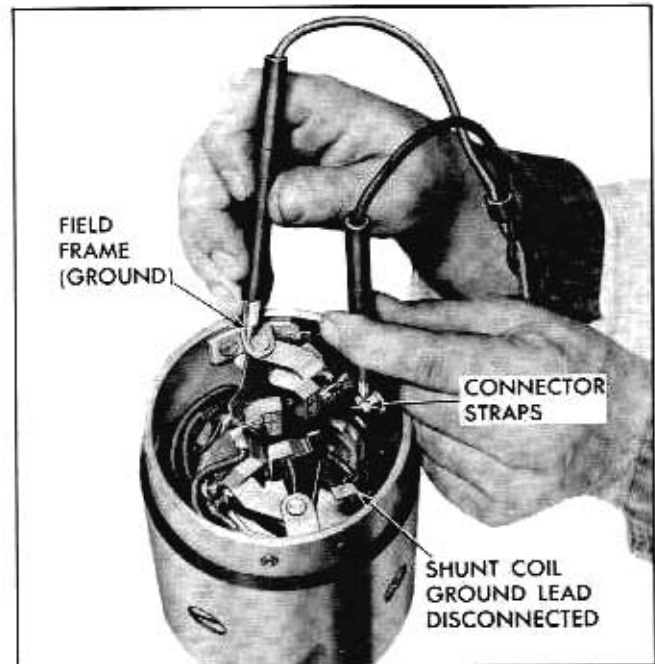

Fig. 11-29 Testing Field Coils for Ground
1. Grounds—If the motor has a shunt field coil, the shunt coil must be disconnected from ground before this check is made. Connect one lead of the 110 volt test lamp to the field connectors and the other lead to the field frame (Fig. 11-29). If the lamp